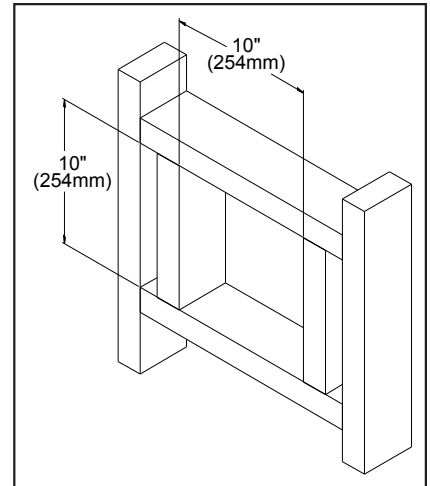

Figure 22: Wall Framing Hole for Horizontal Installation.
4. Frame the hole as shown in Figure 22.
5. Trim the wall thimble to match the wall thickness as necessary. Install the wall thimble and secure it to the inner wall frame using four (4) 1½" wood screws. If a wall is greater than 8" (203mm) in depth, the clearance above the flex must be 43/8" (111mm)
**STEP 3.** With the pipe attached to the stove in the correct location, mark the wall for a 10" (25.4 cm) x 10" (25.4 cm) square hole (refer to Figure 22). The center of the square hole should match the center line of the horizontal pipe. Cut and frame the 10" (25.4 cm) x 10" (25.4 cm) hole in the exterior wall where the vent will be terminated. Refer to Figure 15. If the wall being penetrated is constructed of non-combustible material i.e. masonry or concrete, a 7 inches (17.8 cm) hole is acceptable.